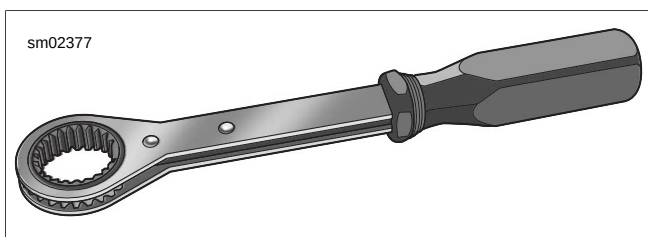

Figure 3-20. Crankshaft Rotating Wrench
- c. See Figure 3-20. **With engine mounted in engine stand:** Install CRANKSHAFT ROTATING WRENCH (Part No. HD-48283) on sprocket shaft and rotate counterclockwise until the base circle is found.